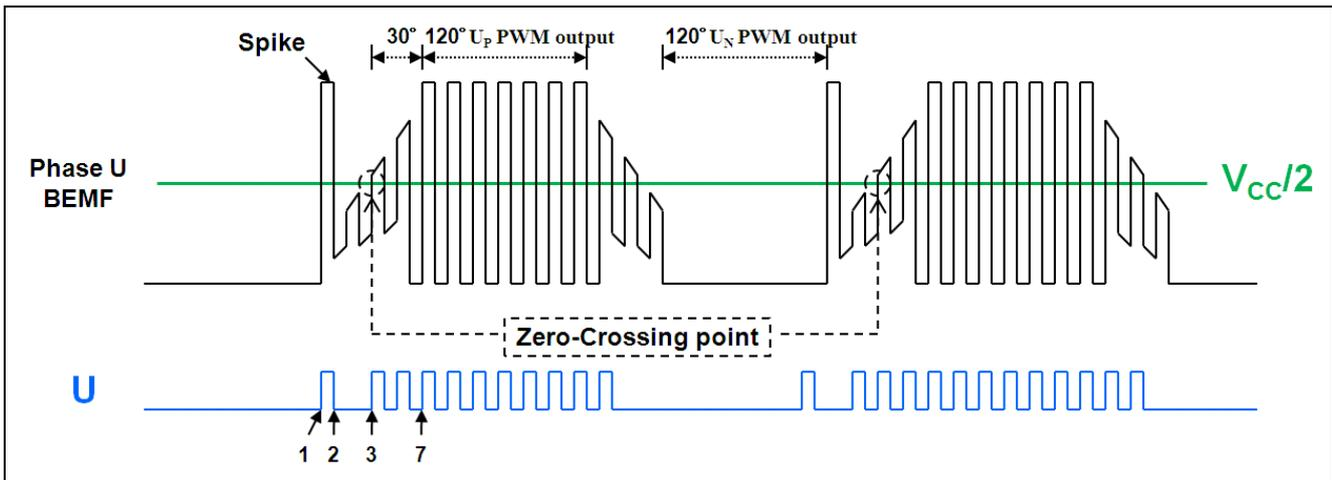
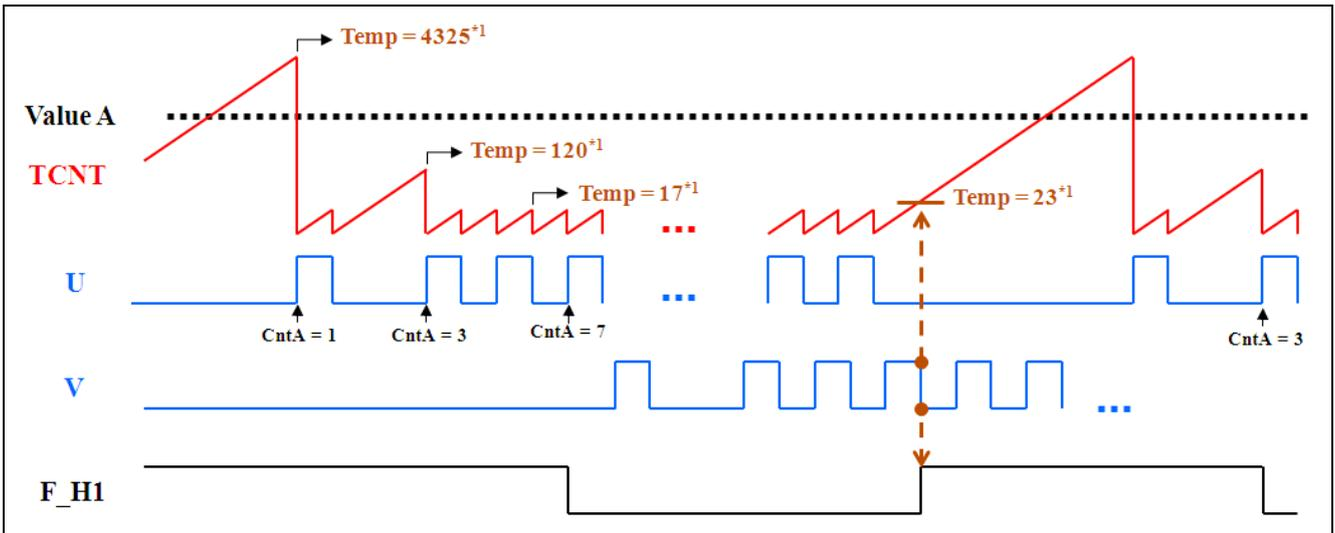

Figure 3-1 Zero-crossing Point Calculation
Figure 3-2 Calculation of Fictitious Signal
Without any hall sensor detection, BEMF is one of many possible methods for sensorless control. In this application note, it is used to realize sensorless control. As shown in Figure 3-1, Phase U BEMF is an example for explanation.
The **U** is an input signal which is a compared value that gets form Phase U BEMF after comparing with $V_{CC}/2$. In Figure 3-1, a spike will be generated by 6-Step Motor Drive at the phase changed, so we know that the 3rd interrupt^{*1} is the zero-crossing point. After knowing the zero-crossing point, U_P PWM should output by delaying 30-degree (i.e. output at 7th interrupt^{*1} in this example; note: '7th' in Figure 3-1 is just an example for explanation).
*1 each interrupt is generated by a MTU3 timer which mode is set as input capture mode at rising and falling edge, and saving the counter value per interrupt, for more detailed explanation, see Figure 3-2.
Figure 3-2 shows how to determine zero-crossing point at rising and falling edge by BEMF signals.
- (1) In Figure 3-2, TCNT value will greater than 'Value A' only when spike is generated (refer Figure 3-1).
- (2) Set 'CntA' to 1 when 'Temp' greater than 'Value A', and add 1 in the next interrupt (i.e. CntA++).
- (3) While low condition is matched with user setting, set fictitious H1 to low (in this example is 7th). F_H1 low represents U_P PWM is outputted after delaying 30-degree, so it needs to tune 'CntA' for the real condition.
- (4) The end of the U_P phase output is uncountable, so we use the Phase V BEMF to determine the rising time of F_H1. In figure 3-2, **V** is Phase V BEMF signal, which timer mode is same as U used. Once the interrupt procedure in V is generated and read 'Temp' value is greater than the minimum 'Temp' value (i.e. 'Temp'= 17), set F_H1 to high.
*1 'Temp' value in Figure 3-2 is an example for explanation. The value should be performed in realistic condition.